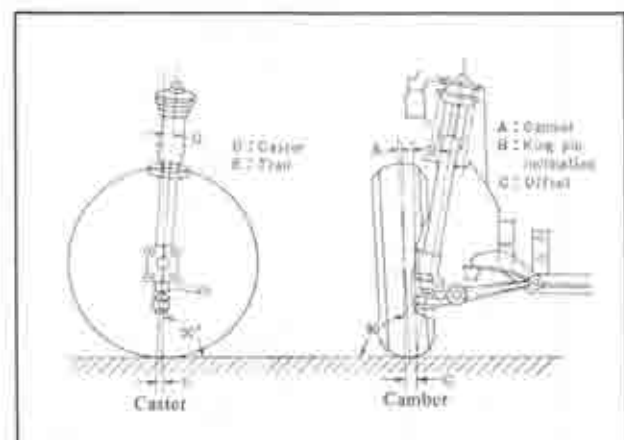

Fig. 10-28 Caster and camber
10. Straighten the front wheel and install the steering damper bracket to the center link with U-bolts and nuts aligning the assembly mark as shown in Fig. 10-28. Then, tighten the nuts to **3.2 ~ 4.7 m-kg (23 ~ 34 ft-lb)**.